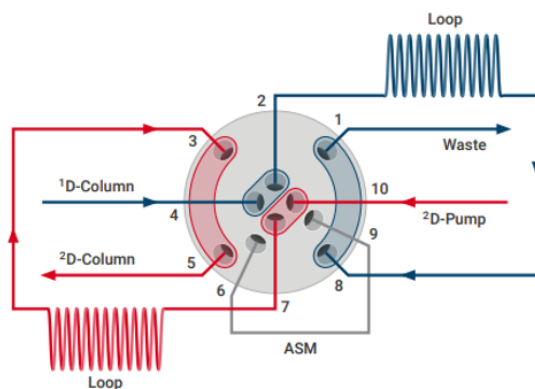

Figure 47: Schematic representation of the Bio 2D-LC ASM Valve without MHC in concurrent flow
- Concurrent direction for the Bio 2D-LC ASM Valve with Single Heart Cut Configuration, see Figure 47 on page 97.
- Countercurrent for the Bio 2D-LC ASM Valve with a Multiple Heart-Cutting Configuration, see Figure 47 on page 97.